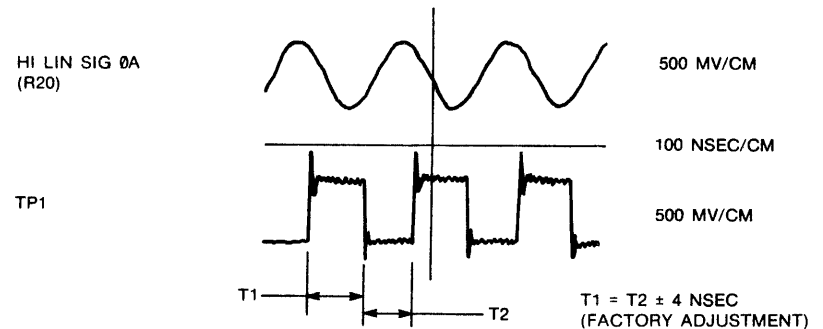

FIGURE 3-67. DIFFERENTIATOR SYMMETRY
- c. **Test Point Waveforms.** The waveforms of Test Points are shown in Figures 3-67 to 3-71 for reference only. Note that HI LIN SIG 0A (D19-R20) in these figures is not an actual read-back head signal, and is the waveform of a sine-wave oscillator output with a frequency of 3.22 MHz.